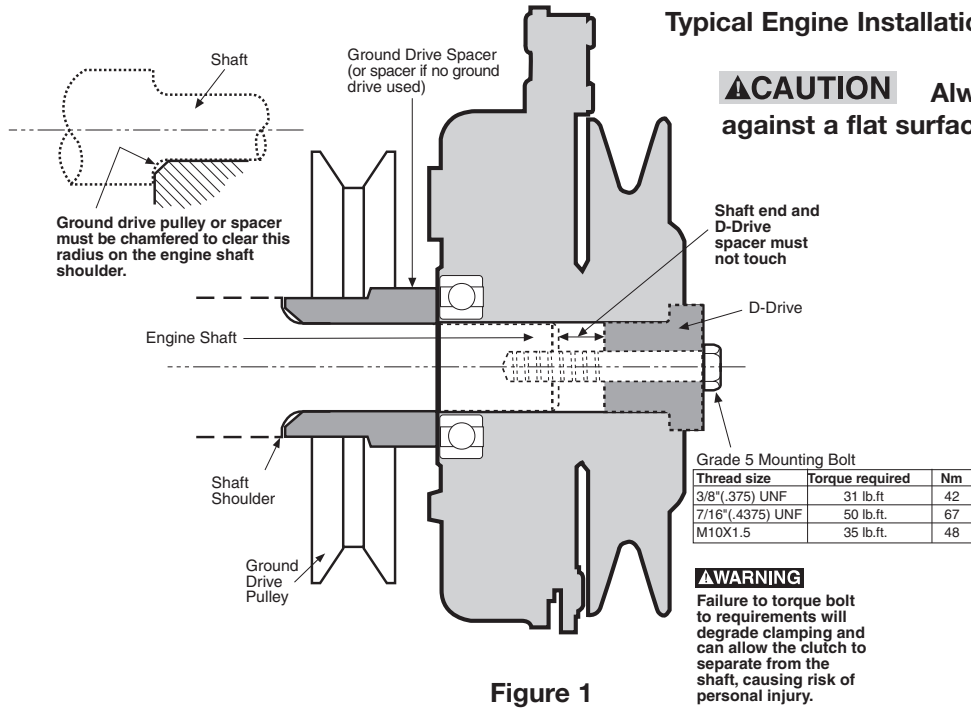

Figure 1
Ground drive pulley or spacer (if used) must be chamfered to clear the radius on the engine shaft shoulder. Ground drive or spacer surfaces must be perpendicular to the bore, parallel to each other and to the mounting surface within .003”. See figure 1.
6. Install mounting bolt and retaining washer and torque to spec. Grade 5 or Grade 8 bolt only. Minimum torque. See figure 1.